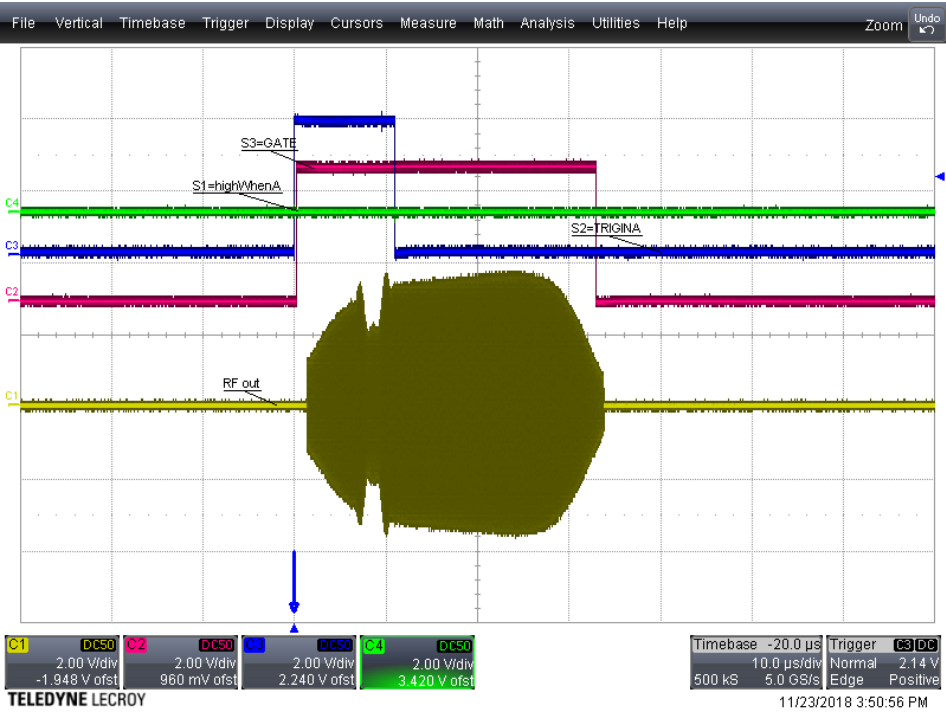

Figure 8.2: RF cycle no delay
- Figure 8.2 shows similar conditions but for the time scale and green trace showing **highwhenA**. The RF signal (yellow trace) is slightly late with respect to GATE. The delay between the rising edge of TRIGGER and the start of RF generation depends of the sampling frequency (Fdata) and varies from 300ns to $2.3\mu s$. This delay is called GENDEL.